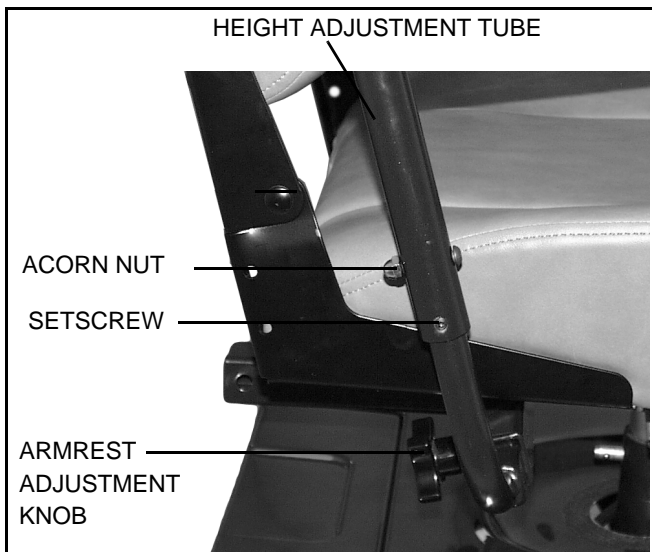

Figure 15. Armrest Height Adjustment
1. Loosen the armrest adjustment knobs at the back of the seat frame. See figures 15 and 16.